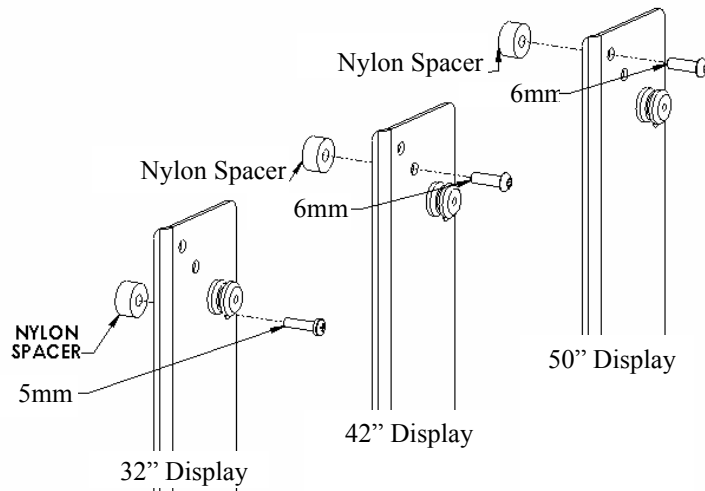

Figure 6. Bracket Hole Location
3. Place nylon spacers over the mounting holes on the back of the screen (see Figure 6).